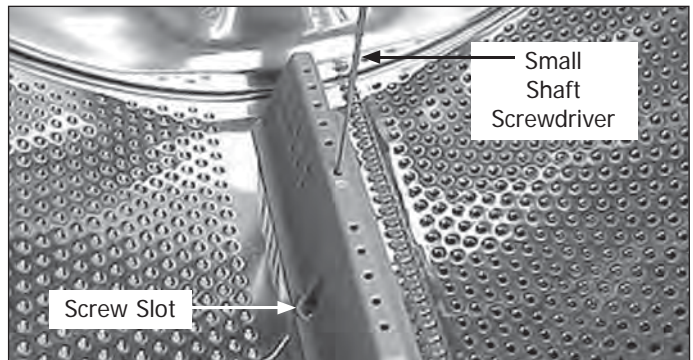

Figure 4-109.
2. Insert a small shaft common screwdriver into the hole in top of the vane behind the divided space and push the (4) locking tabs open. (See Figure 4-109)
4. When replacing or reinstalling, secure the vane with a stainless steel screw through the slot in the side of the vane. (See Figure 4-109)